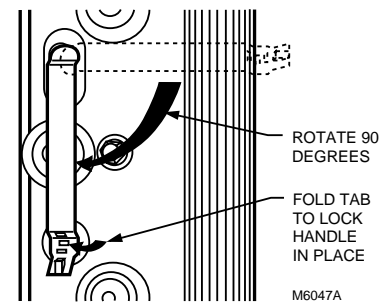

Fig. 16. Install handle on end of cell closest to access door.
2. Hold the handle sideways and insert the solid tab on the back of the handle into the slot in the cell. Turn the handle 90 degrees clockwise to align the divided tab with the square hole. See Fig. 16.